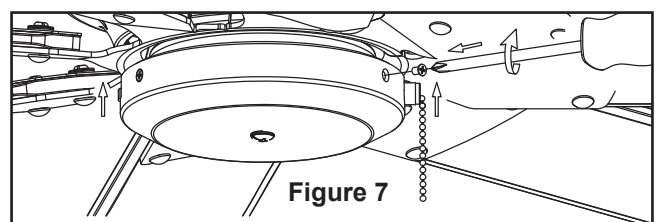

Figure 7
- 10. Assemble the housing switch cup onto the assembled adapter with three screws. (Figure 7)